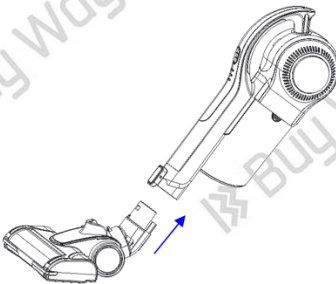

Fig. 5
- Insert the motorized floor brush into the air inlet of the main body and ensure that it is connected firmly and the insertion is not loose. After hearing the click, the motorized brush is installed in place (see fig. 5).